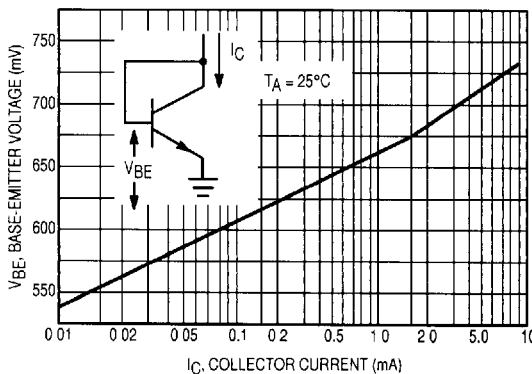

Figure 2. Base-Emitter Voltage versus Collector-Emitter Current
- For maximum temperature accuracy,  $I_C$  should not exceed 2 mA. (See Figure 2)